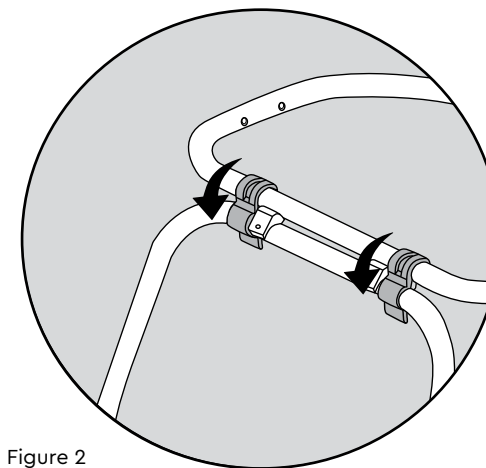

Figure 2
2. Lock bars together by pushing down on latches (Figure 2).